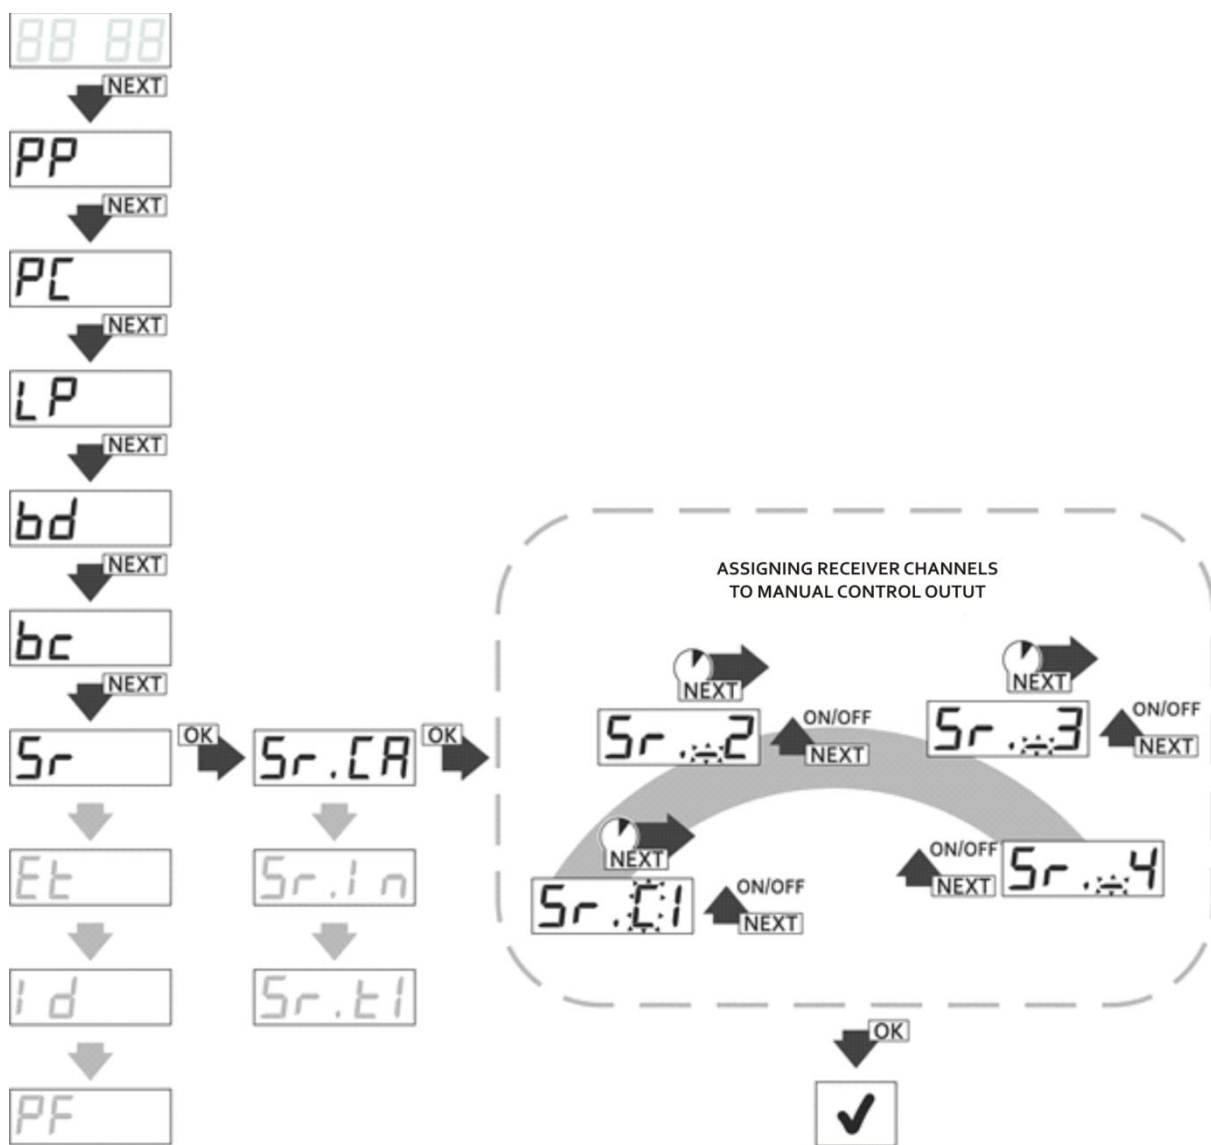

Fig. 22 Assigning receiver channels to the manual control output, Sr.CA function.
- from main menu with NEXT button choose Sr option and press OK/ESC button of the receiver; the display shows 'Sr.CA' (Fig.22);